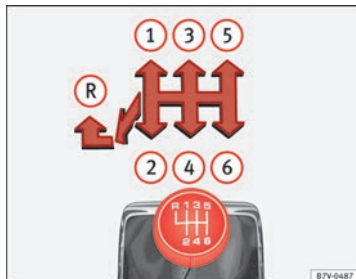

Fig. 132 Gear shift pattern of a 6-speed manual gearbox
The position of each of the gears is shown on the gear stick ⇒ Fig. 132.
⇒ Fig. 132 (R).